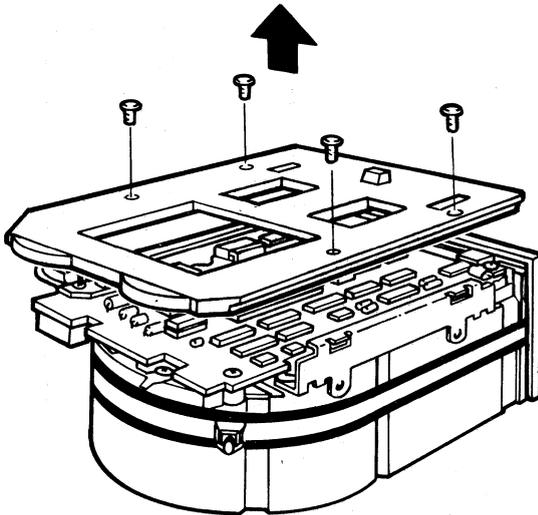

Figure 6-10 Remove the Slide Plate
1. Remove the four Phillips screws retaining the slide plate and ground clip. Set the slide plate aside (Figure 6-10).